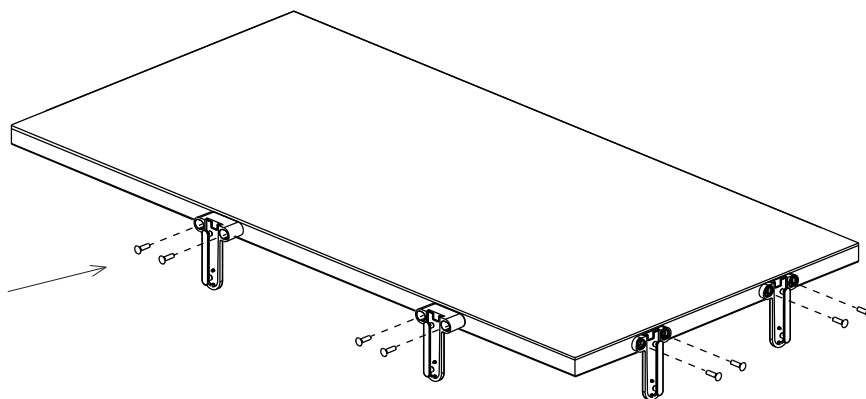

Fig. 2
3. Note the difference in thickness between the 1 1/4" Back Brackets (D) and the 3/8" Side Brackets (C). Align the Back Brackets (D) to the pre-drilled holes along the back edge. Attach the brackets to the worksurface using (2) #14 x 1" Flat Head Sheet Metal Screws (F) per bracket. (Fig. 2)